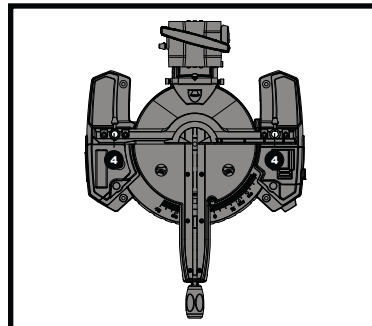

Fig 8
- 2) Place the hold-down clamp assembly (3) in one of the mounting holes (4). (See fig. 8)